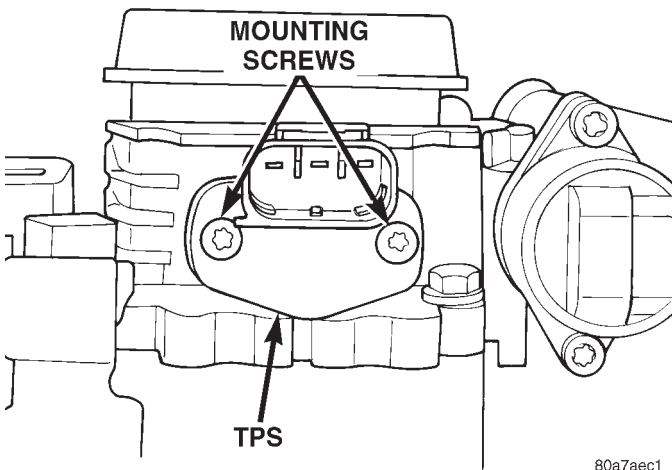

Fig. 39 TPS Mounting Screws
(1) Disconnect TPS electrical connector.
(2) Remove TPS mounting screws (Fig. 39).
(3) Remove TPS.